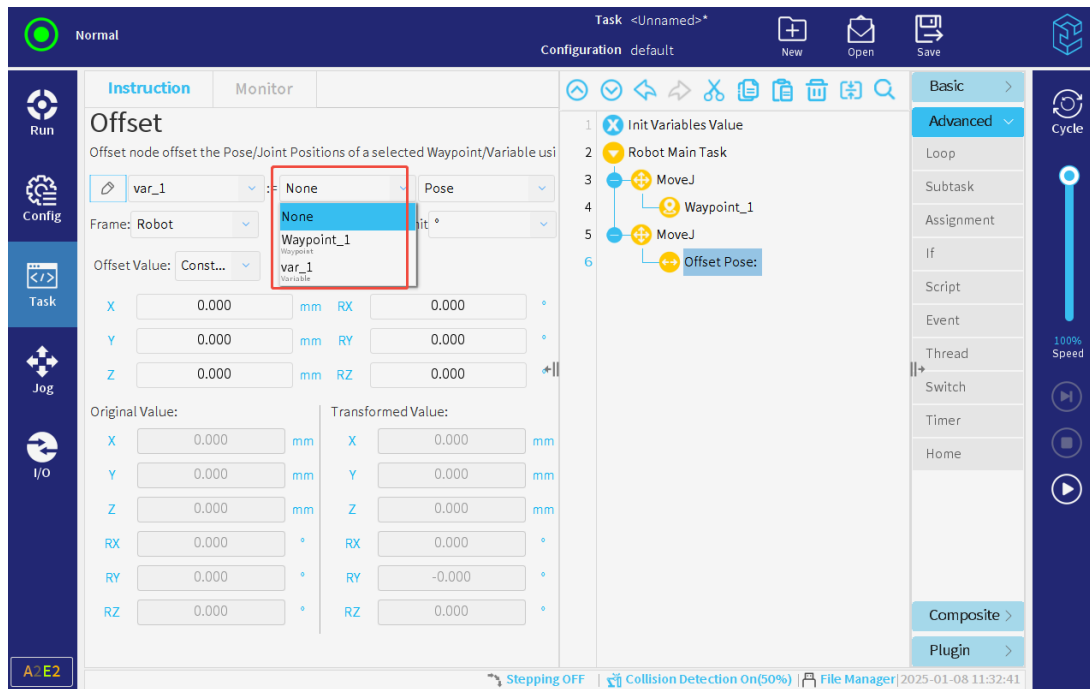

Figure 3-110 : Select Data Source
- Tap the second drop-down box to select a waypoint at a fixed location, or a task variable or a configuration one as the source of pose or joint offset, as shown in **Figure 3-110**.